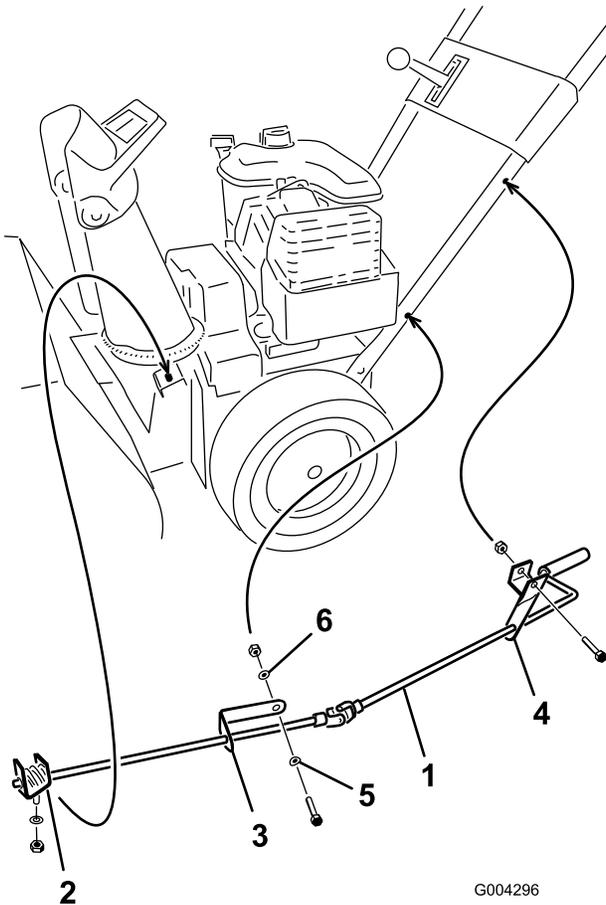

Figure 10
1. Secure the upper chute control bracket (attached to the chute control rod) to the upper left side of the handle with a bolt and a locknut (Figure 10).
2. Secure the lower chute control bracket (attached to the chute control rod) to the lower left side of the handle with a bolt, a curved washer, a flat washer, and a locknut (Figure 10).
6. Tighten the locknuts that secure the 2 chute control brackets (Figure 10).